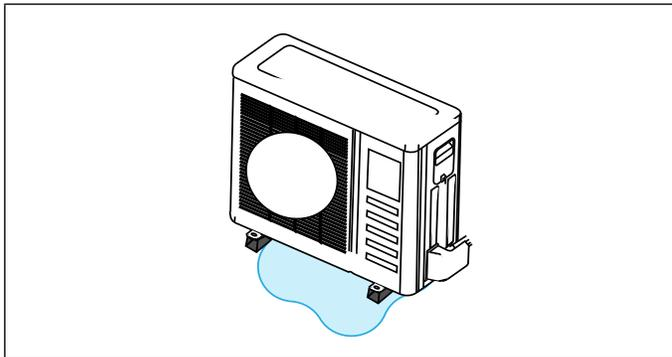

Figure 12. Avoid Defrost Water Ice Hazard
- Carefully consider how to manage defrost water disposal to prevent ice from blocking walkways or creating a safety hazard near the outdoor unit as illustrated in “Figure 12. Avoid Defrost Water Ice Hazard” on page 10.